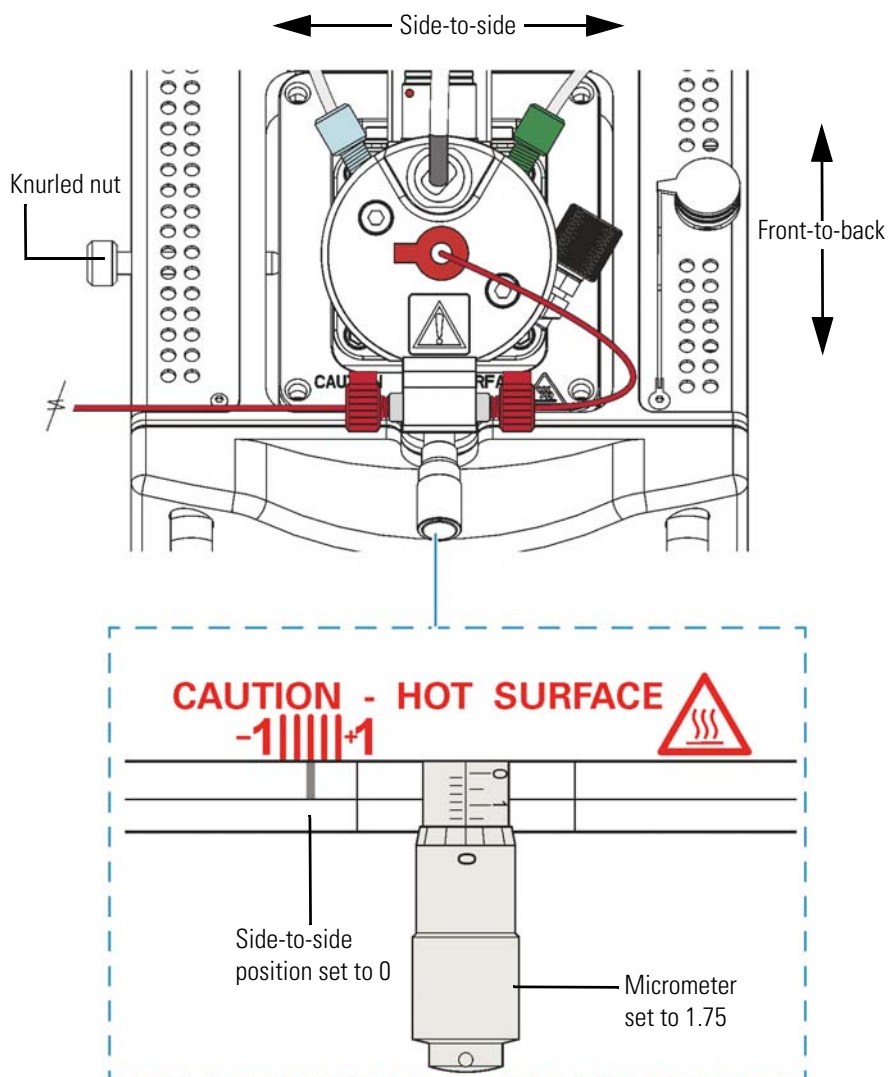

Figure 8-24. Top view of the Ion Max source housing with a HESI-II probe
- Using the micrometer on the front of the Ion Max source housing, adjust the front-to-back probe position (see Figure 8-24).
- Using the knurled nut on the left side and the +1 to -1 markers on the top front of the Ion Max source housing, adjust the side-to-side probe position (see Figure 8-24).